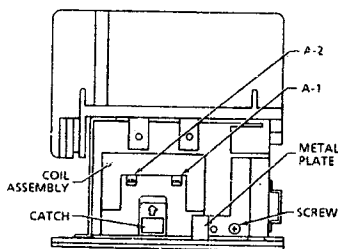

FIGURE 4
- b. Remove the screw and small metal plate shown in Figure 4.